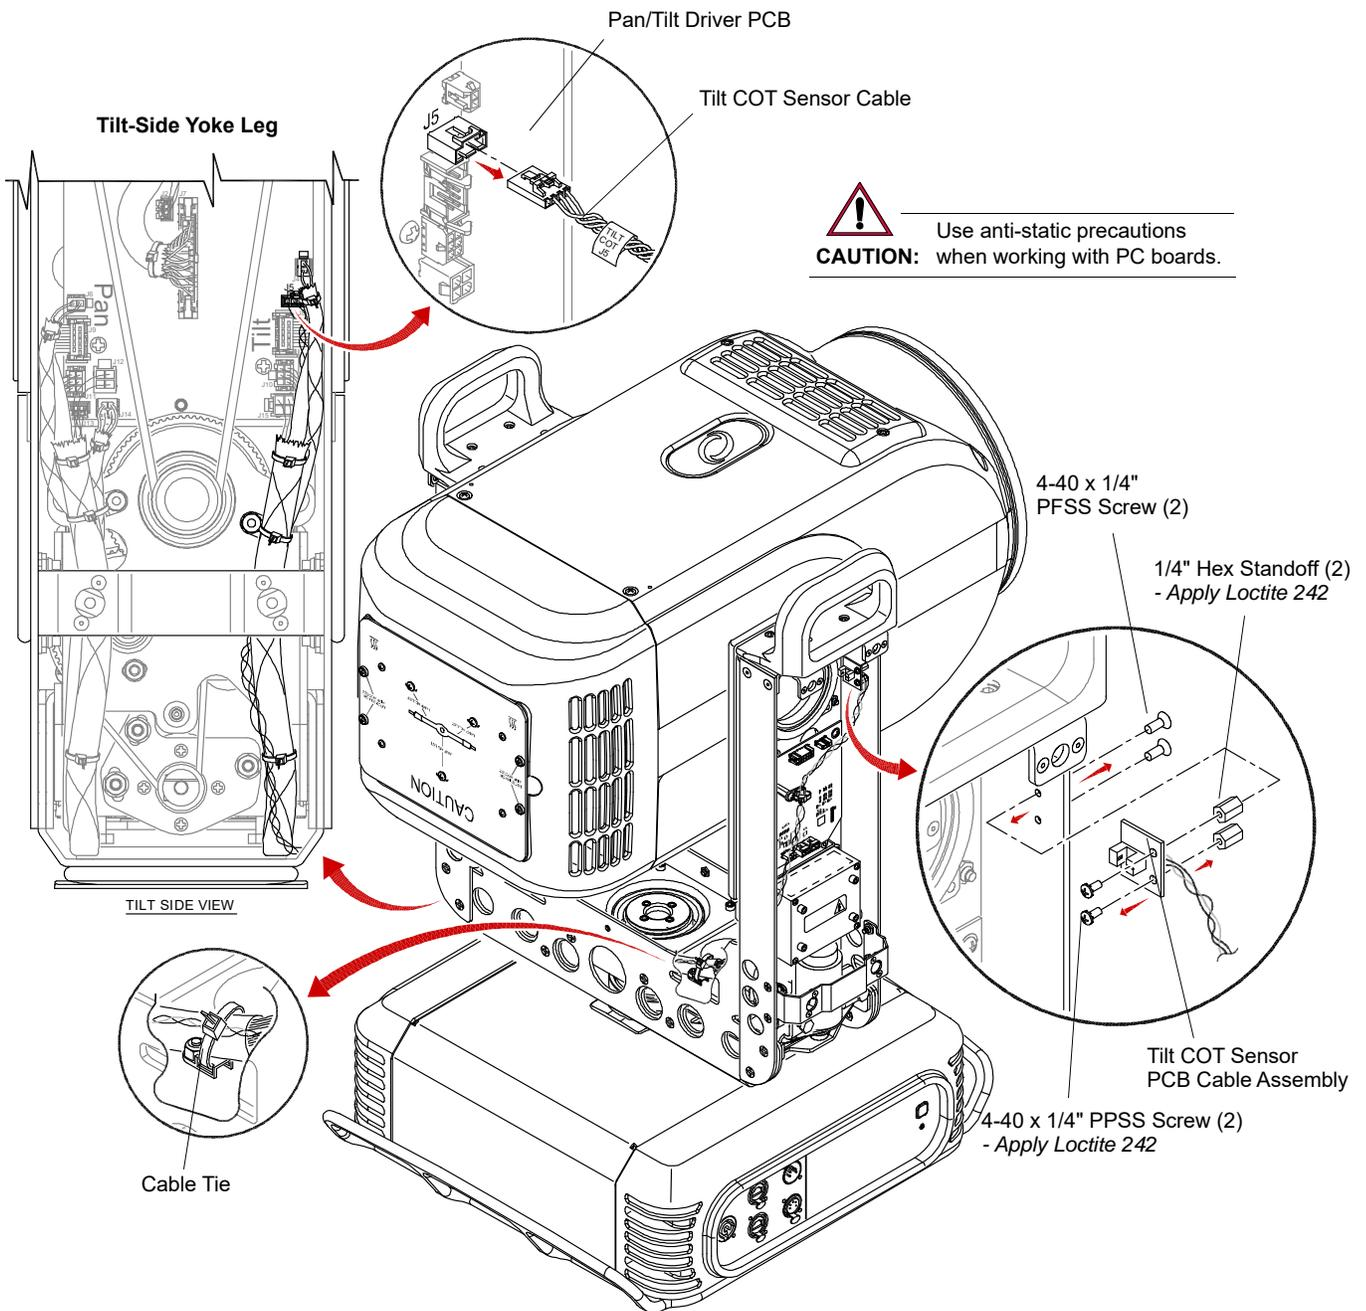

Figure 3-59: Removing Tilt COT Sensor PCB
- Step 4. At Tilt-Side Yoke Leg, disconnect Tilt COT Sensor Cable from Pan/Tilt Driver PCB (**Figure 3-59**).